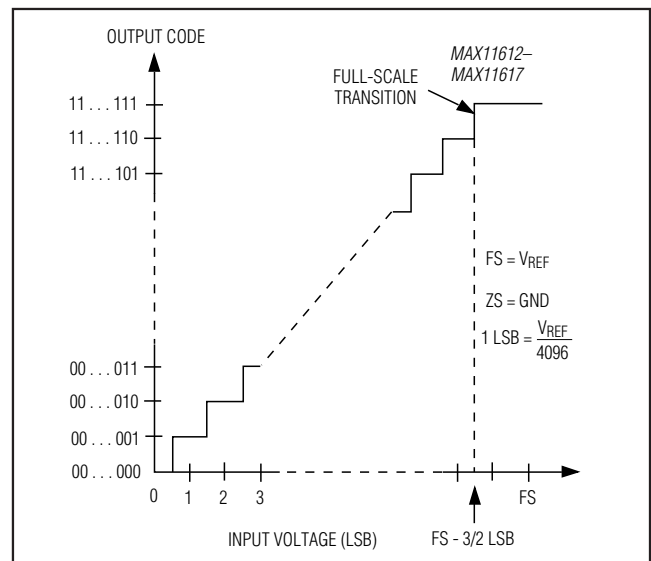

Figure 12. Unipolar Transfer Function
Output data coding for the MAX11612-MAX11617 is binary in unipolar mode and two's complement in bipolar mode with  $1 \text{ LSB} = (V_{REF}/2N)$  where N is the number of bits (12). Code transitions occur halfway between successive-integer LSB values. Figures 12 and 13 show the input/output (I/O) transfer functions for unipolar and bipolar operations, respectively.